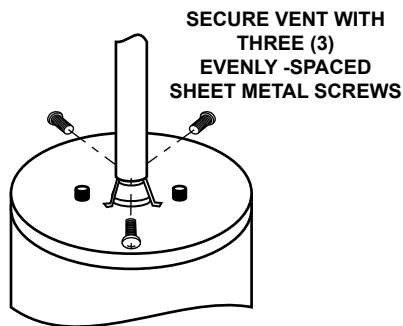

Figure 31: Securing the Flue to Vent Reducer
- Fit the bottom opening of the pipe over the top opening of the flue reducer. See Figure 31. Ensure that there is no gap and that the seal is complete.
- Secure the flue pipe to the reducer with three (3) evenly-spaced sheet metal screws (Figure 31). **Do not leave any open holes in the flue reducer or flue pipe.**
verify that the "LP" arrow on the fitting is pointing toward the gas control valve/thermostat. The red band on the fitting should touch the metal boss. See Figure 31.